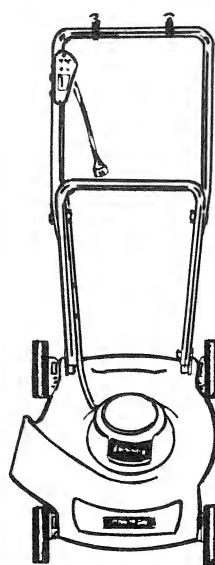

FIGURE 18
Your mower should be stored in a dry place, and to save space it can be hung on a wall (Figure 18) as follows:
2. Lower the handle to a horizontal position, away from the deck. Now the mower can be hung upright on the wall (Figure 18).
**PREVENTING CORROSION** — Fertilizers and other garden chemicals contain agents which greatly accelerate the corrosion of metals. If you mow in areas where fertilizers or chemicals have been used, the mower should be cleaned immediately afterward as follows: (1) Be sure the tool is turned off and unplugged. (2) Wipe all exposed parts with a damp cloth.